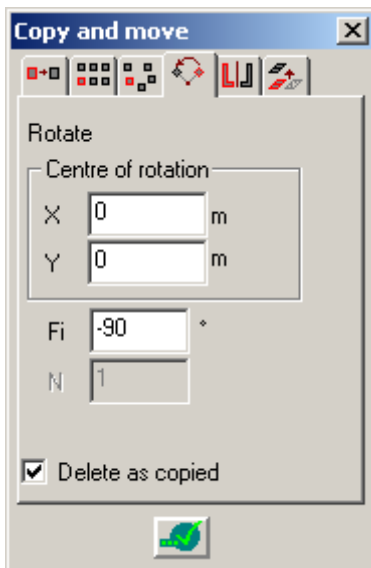

Figure 1.5.7 **Copy and move** dialog box (**Rotate** tab)
- click the **Rotate** tab  (see Fig.1.5.7);